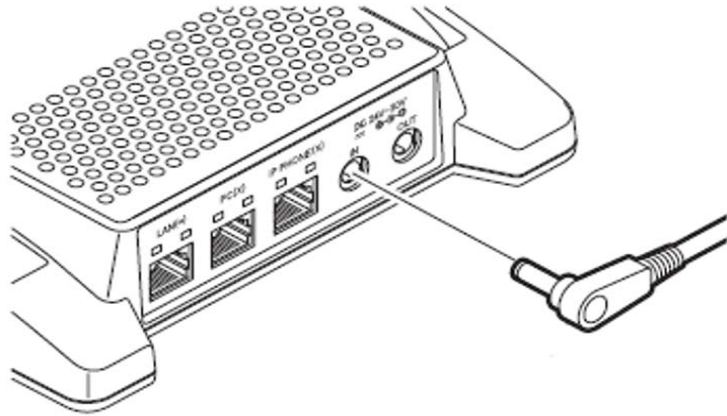

Figure 6-58 DC Power Connection
15. Install the NEC provided power cable (refer to Figure 6-58 DC Power Connection).